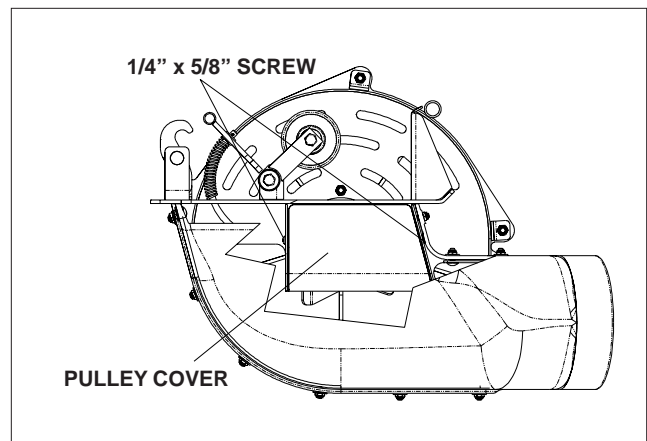

FIGURE 7
9. Using a 5/32" allen wrench, remove the two 111229 1/4" x 5/8" screws from the pulley cover and remove the cover to expose the pulley. Figure 7.